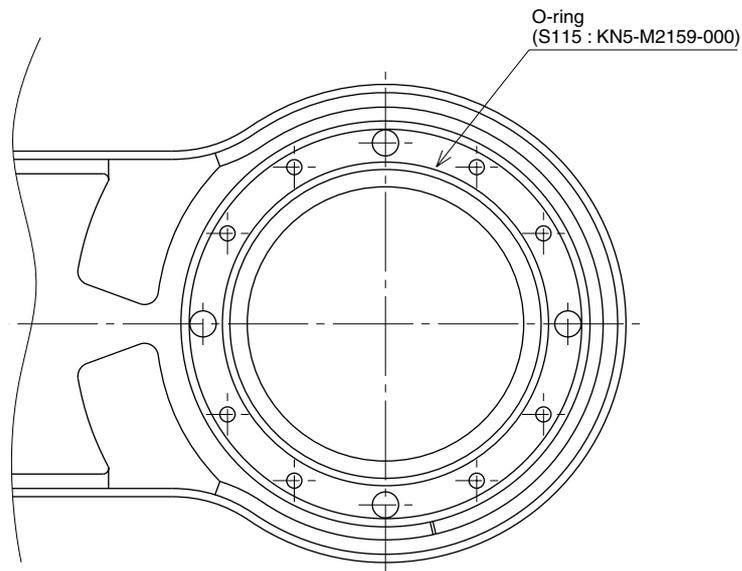

**Fig. 5-37**
- 10) Remove the X-axis arm installation bolts (M5×55L, 8 pieces). (See Fig. 5-37.)
- 16) Fit a new O-ring into the O-ring groove on the X-axis arm and secure it to the harmonic drive. Then apply small amounts of "Screw Lock" to the bolts (M5×55L, 8 pieces) you removed earlier and tighten them uniformly to secure the X-axis arm. (See Fig. 5-37 and Fig. 5-38.)